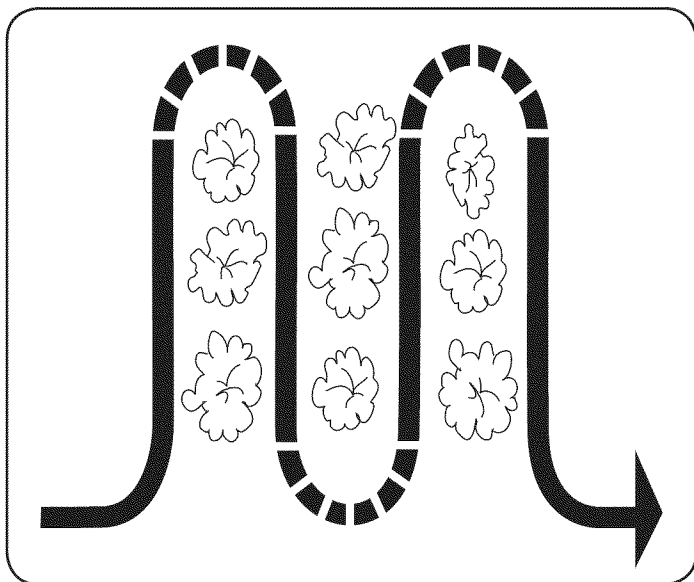

Figure 16
- When cultivating (breaking up the surface soil around the plants to destroy weeds, See Figure 16), try to have the tines only dig 1" to 2" deep. Using the shallow tilling depth helps prevent injury to the plants whose roots often grow close to the surface. If needed, lift up on the handlebars slightly to prevent the tines from digging too deeply. (Cultivating on a regular basis not only eliminates weeds, it also loosens and aerates the soil for better moisture absorption and faster plant growth.) Watering the garden area a few days prior to tilling will make tilling easier, as will letting the newly worked soil set for a day or two before making a final, deep tilling pass.